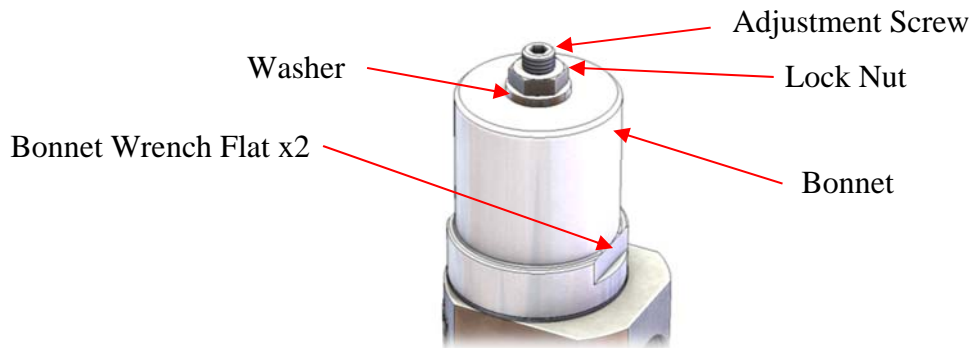

Figure 11: Upper Bonnet
2. Loosen the lock nut from the adjustment screw. See Figure 11.
4. Remove the bonnet from the body by utilizing the wrenching flats on the bonnet. See Figure 11.